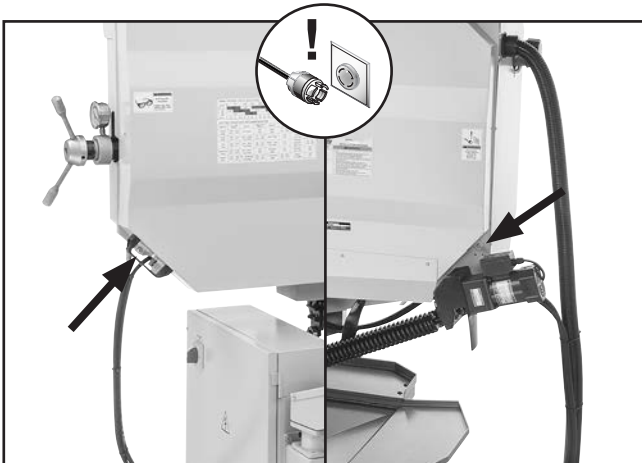

Figure 106. Wheel cover secure screws (2 of 4).
4. Open wheel cover by removing (4) button head cap screws (see **Figure 106**). You may need to move vise support for clearance.